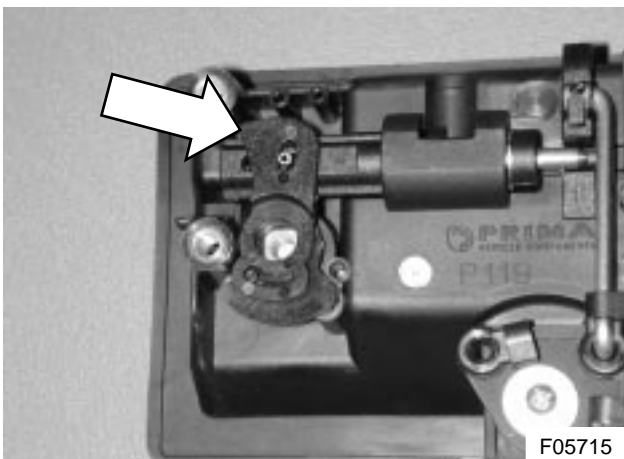

Figure 14: Upper cam installation on cam drive
7) Reinstall the upper cam (see Figure 14).